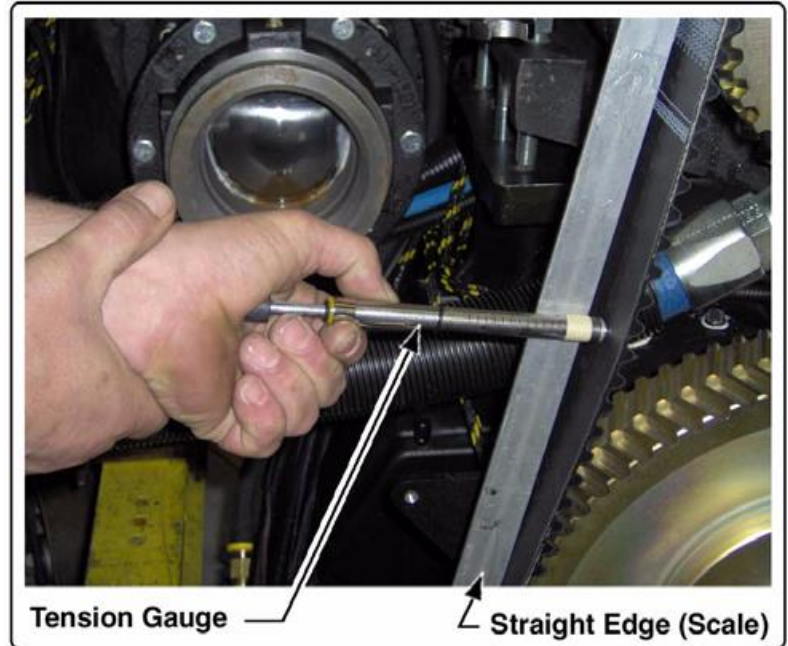

Figure 45: Measuring Tension using a Scale
1. Use a belt tension gauge to determine the tension applied to the belt and check on the left side of the unit (See Figure 45).
4. Make sure that the body of the strain gauge is perpendicular to the belt when applying force. (See Figure 45) Push gauge towards the belt until the body of the gauge moves  $5/16$ " (8 mm) along the scale (or ruler) to the large O-ring setting. (See Figure 45)